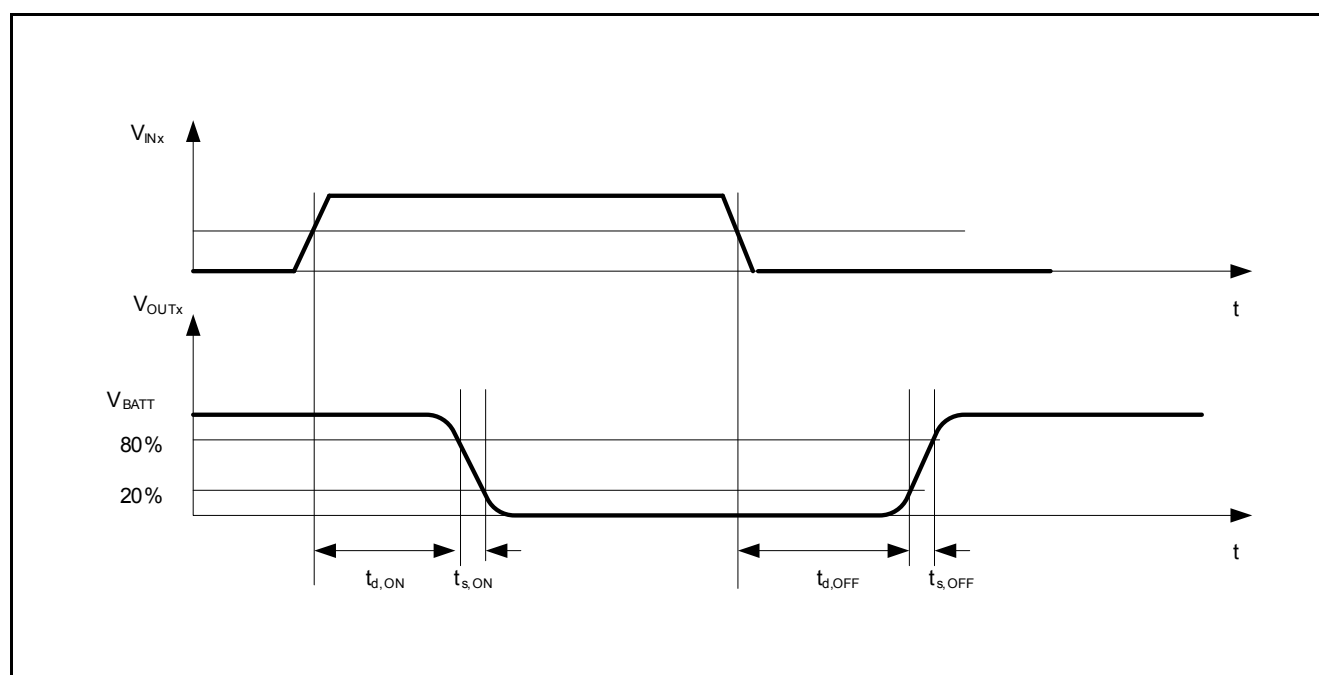
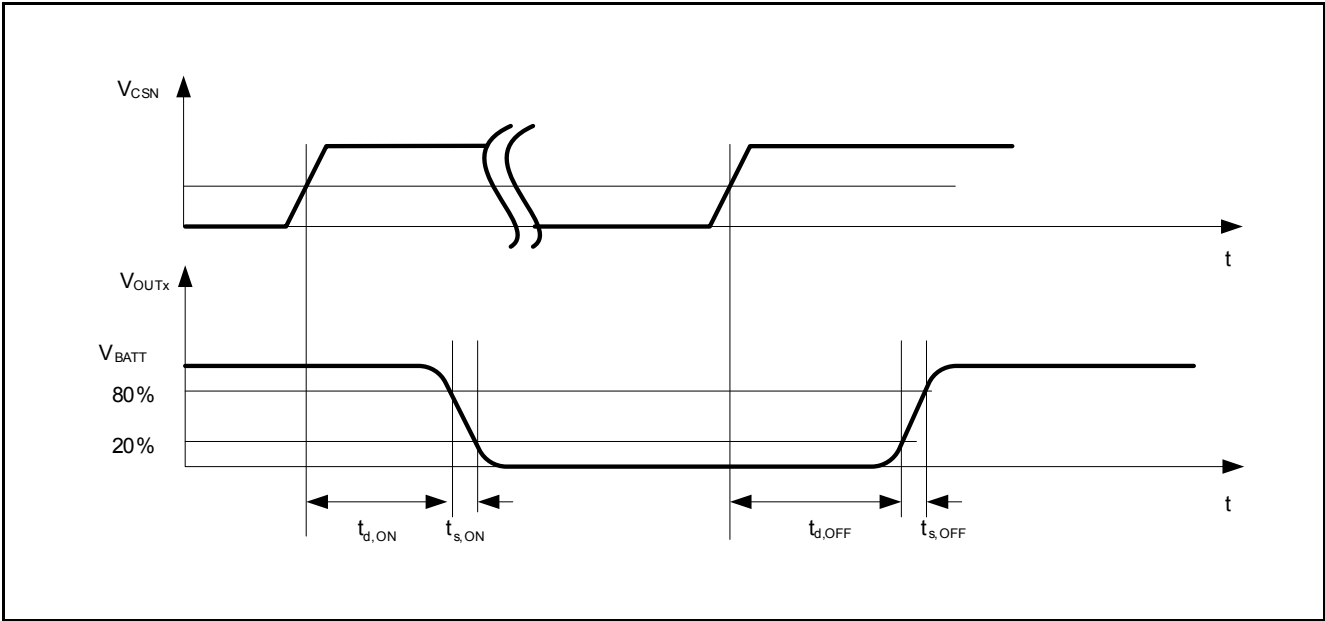

Figure 7 Timing Low Side Switches Channel 1 and 3
Figure 8 Timing Low Side Switches Channel 2, 4 and 5
1) definition of timing see Figure 7 or Figure 8.